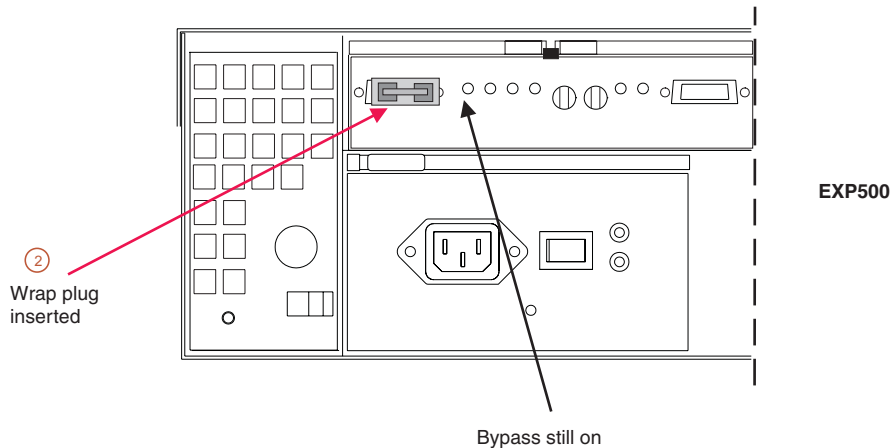

Figure 157. Insert wrap plug
2. Insert a wrap plug in the element from which you disconnected the cable. See Figure 157 on page 326.